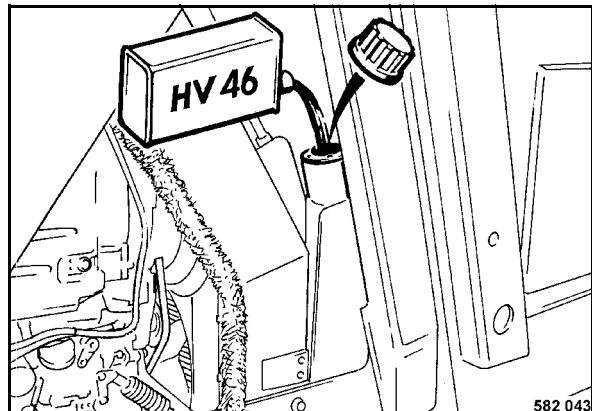

Fig. 62
- If necessary fill in hydraulic oil through the filler neck (Fig. 62).